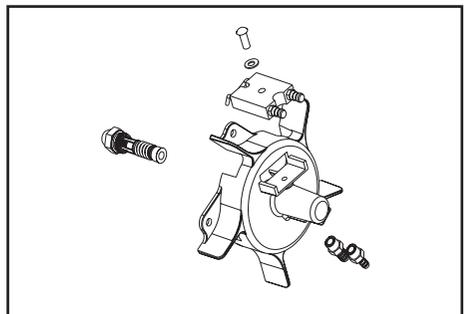
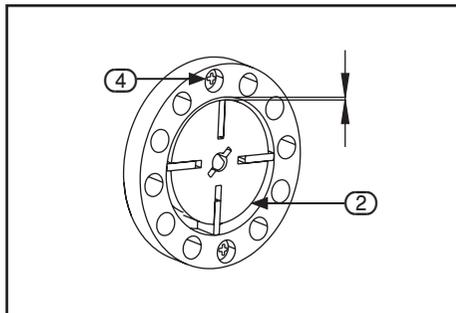

FIG.8
FIG.14
- 6. Remove rotor (2), insert (1), and blades (3).
- 8. Install insert (1) and rotor.
- 9. Check gap on rotor (FIG.14). Adjust to 0.08/0.12mm if needed using gap adjust screw (4). Note: Rotate rotor (2) one full turn to ensure the gap is 0.08/0.12mm at tightest position. Adjust if needed.
- 10. Install blades (3), pump plate, air filters, and filter end cover.
- 14. Place fine grade sandpaper on flat surface. Sand rotor lightly in “figure 8” motion four times
- 15. Reinstall insert (1) and rotor (2).